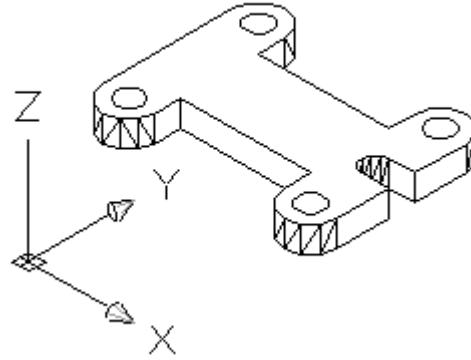

Fig.6
Specify opposite corner of viewport: {pick approximate point on the lower right corner of the side view}. Figure 6
5. EXTRUDE the profile and four circles with -.5 extrude height. (Figure 6)